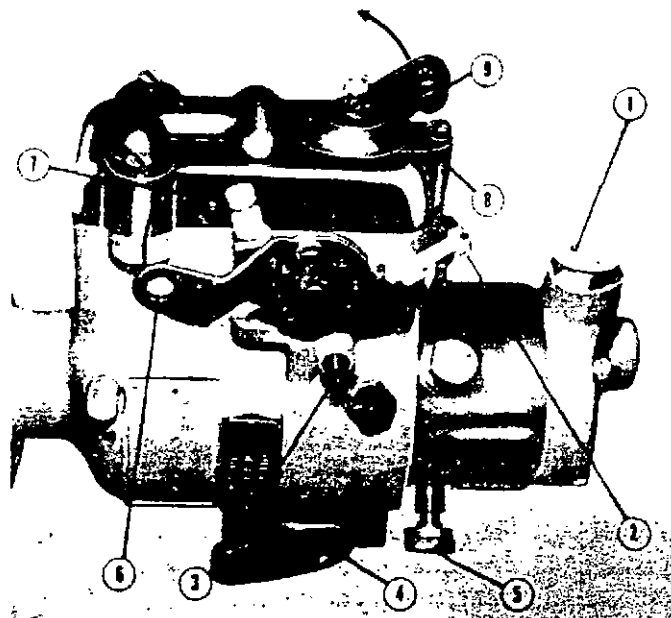

Figure 99F
The idling (7) and high speed (2) screws shown on Fig. 99F provide the idling and governed speed adjustments.